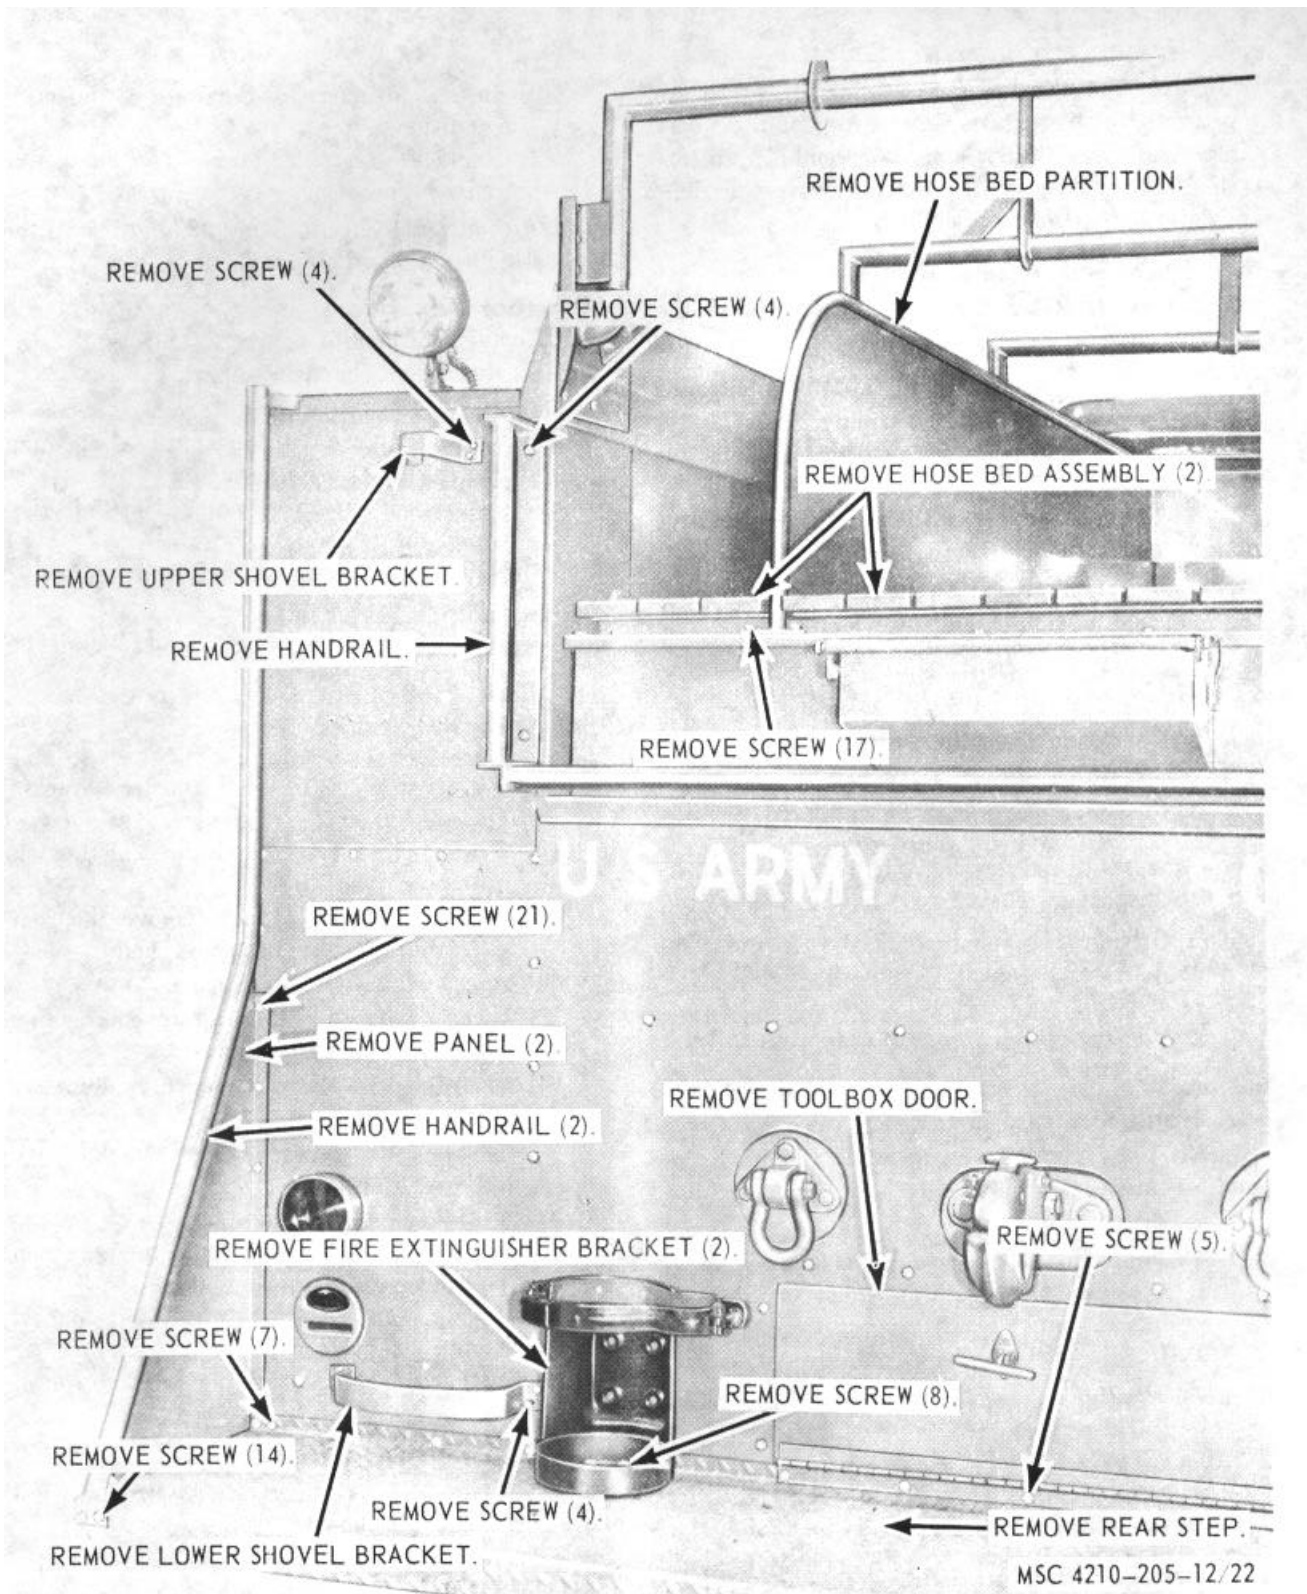

Figure 22. Hose bed assemblies, handrails, rear step, tool box door, and brackets, removal and installation.
a. Removal. Refer to figure 22, and remove the hose bed assemblies from the water tank.
- (1) Clean all parts in an approved cleaning solvent, and dry thoroughly.
- (2) Inspect all parts for damaged or defective condition.
- (3) Replace or repair damaged or defective parts as necessary.
c. Installation. Refer to figure 22, and install the hose bed assemblies on the water tank.
a. Removal. Refer to figure 22, and remove the hose bed partition from the water tank.
- (1) Clean all parts with an approved cleaning solvent, and dry thoroughly.
c. Installation. Refer to figure 22, and install the hose bed partition on the water tank.
a. Removal. Refer to figure 22, and remove the handrails and brackets from the special purpose body.